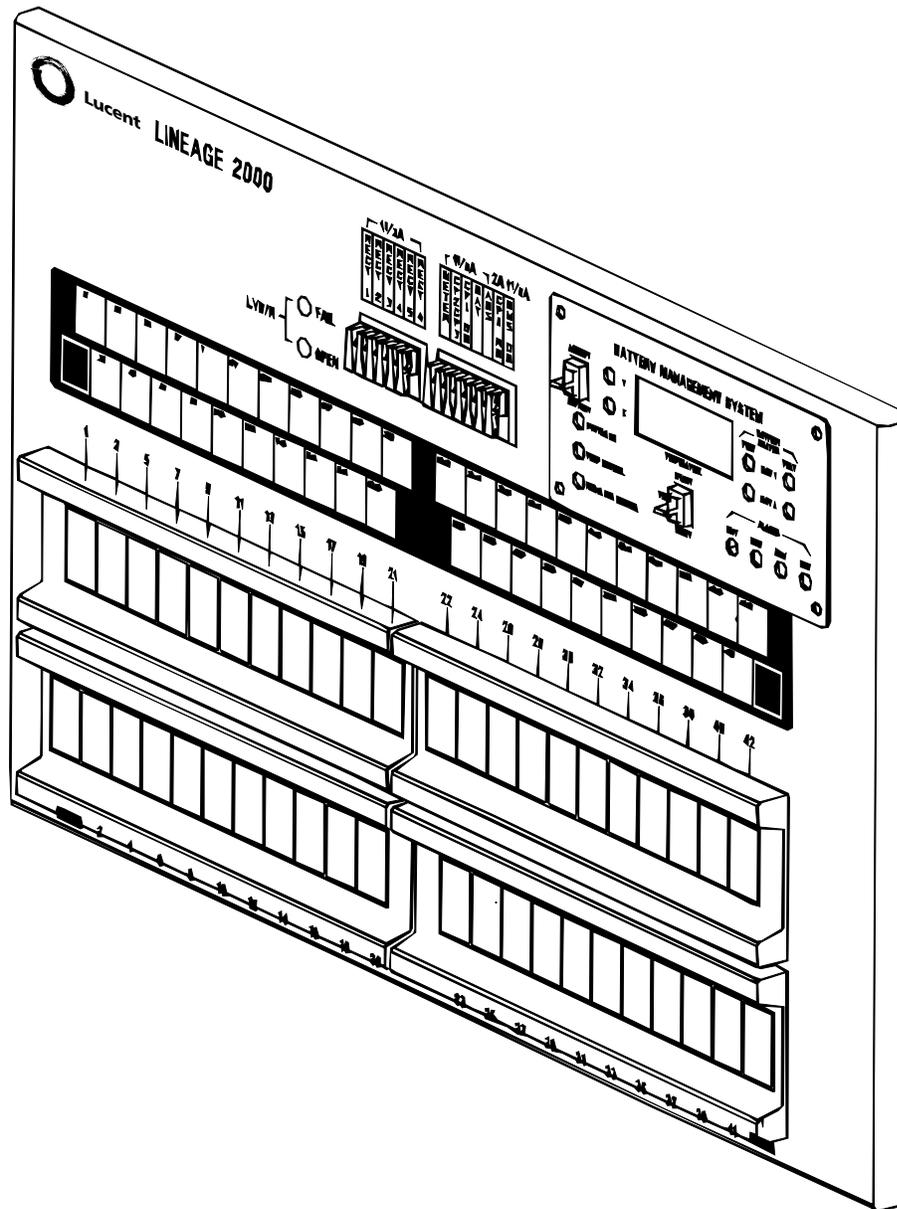

Figure 3-1: Battery Management System
- Battery Management System (distribution door, circuit pack, and cover) (Figure 3-1)